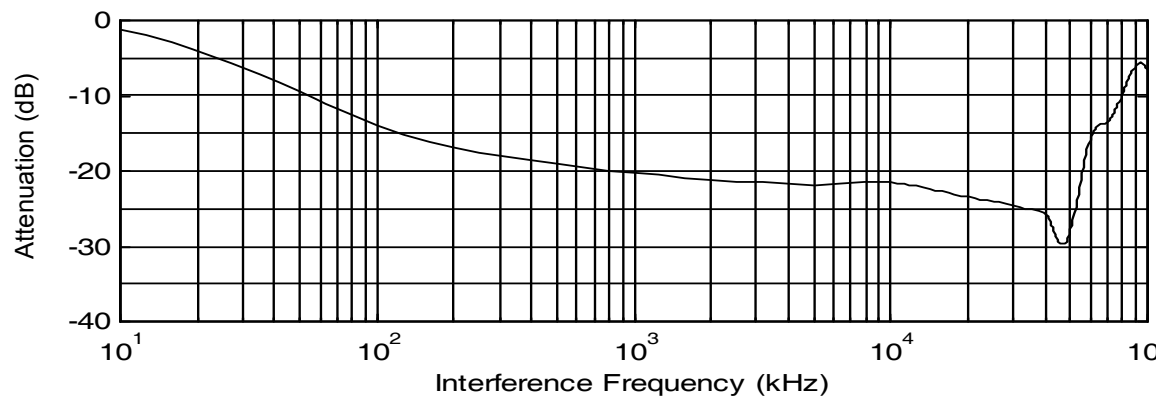

Figure 11.4.1 Frequency attenuation characteristics (10 windings case)
- The ferrite core can attenuate high frequencies in the range of 100 kHz to 50 MHz, as shown in figure 11.4.1 below, and therefore should minimize the RFI generated by the inverter.